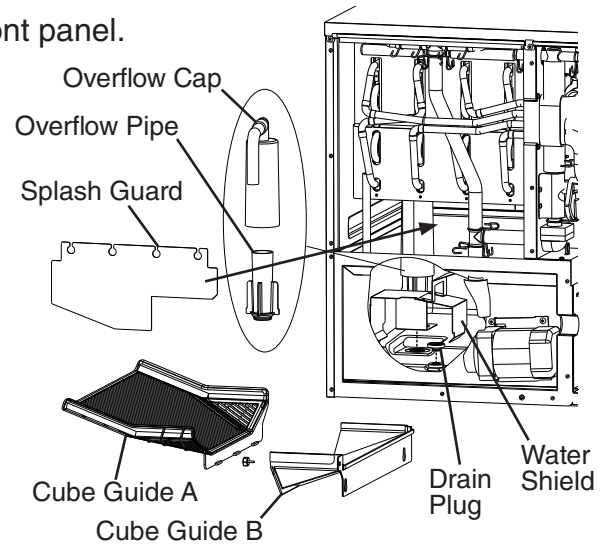

Fig. 10
- 7) Remove the insulation panel, then remove splash guard, cube guide B, and cube guide A. Next, remove the overflow cap, overflow pipe, water shield, and drain plug. See Fig. 10.